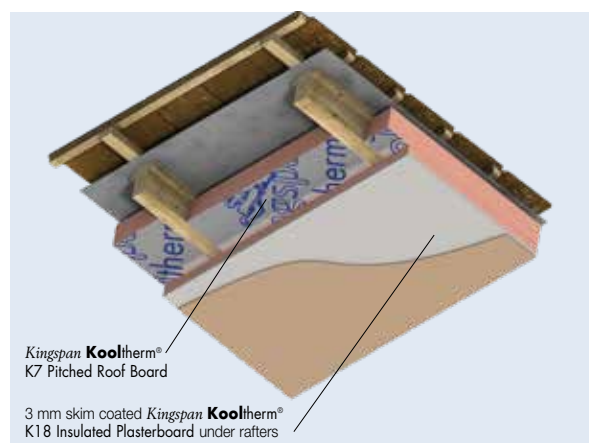

Figure 5 – Mechanically Fixed to Timber Rafters with **Kingspan Kooltherm® K7 Pitched Roof Board** Between Rafters
- Sheets of **Kingspan Kooltherm® K18 Insulated Plasterboard** may be used to line ceilings (see Figure 5).